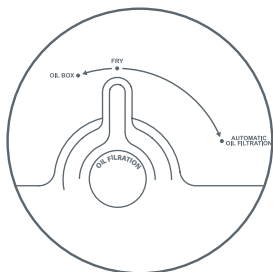

Fig. 9
- The Oil box control button has 3 positions – fig. 9.
- Place the Oil box switch button on the Fry position – fig. 9.